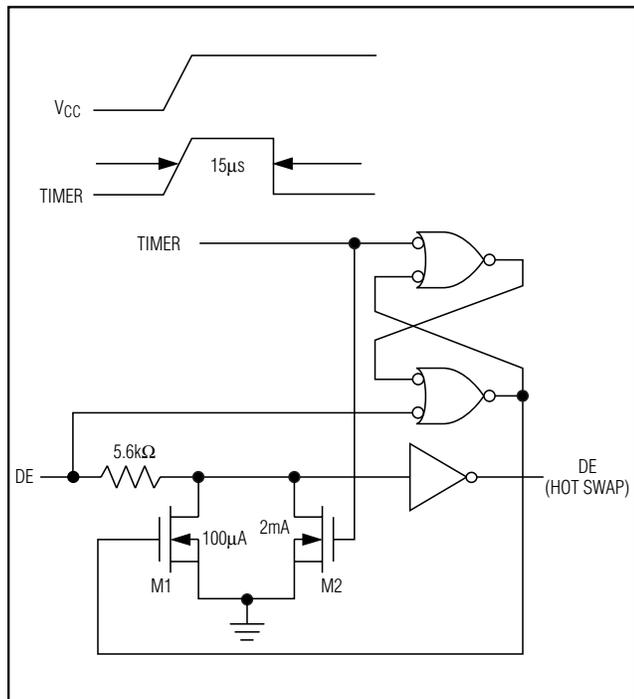

Figure 9. Simplified Structure of the Driver Enable Pin (DE)
At the driver enable input (DE), there are two NMOS devices, M1 and M2 (Figure 9). When VCC ramps from 0, an internal 15µs timer turns on M2 and sets the SR latch, which also turns on M1. Transistors M2, a 2mA current sink, and M1, a 100µA current sink, pull DE to GND through a 5.6kΩ resistor. M2 pulls DE to the disabled state against an external parasitic capacitance up to 100pF that may drive DE high. After 15µs, the timer deactivates M2 while M1 remains on, holding DE low against three-state leakage currents that may drive DE high. M1 remains on until an external current source overcomes the required input current. At this time, the SR latch resets M1 and turns off. When M1 turns off, DE reverts to a standard, high-impedance CMOS input. Whenever VCC drops below 1V, the input is reset.